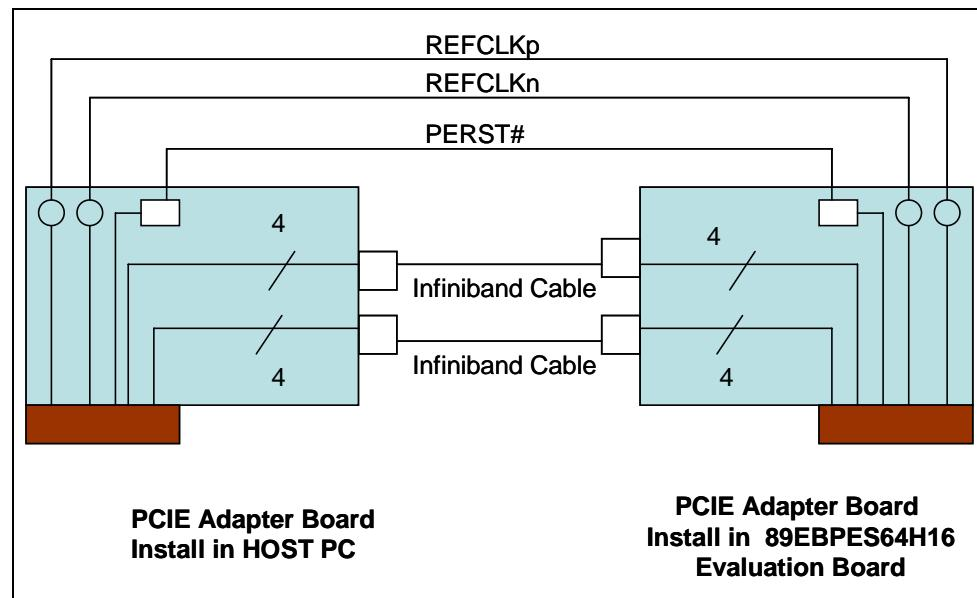

Figure 2.1 PCIe Adapter
| Figure 2.1 | PCIe Adapter | 2-1 |
3. Connect a PCI Express adapter card in an upstream port with a cable to another PCI Express adaptor card in the root complex or host system, as shown in Figure 2.1.
The PCI Express adapter card contains eight PCIe lanes (see Figure 2.1). The lower four lanes are routed to an Infiniband connector J2 and the upper four lanes to J3. The differential REFCLKp and REFCLKn pins are routed to J5 and J6, respectively. The JTAG interface and PERST# pins are routed to J4 although only PERST# pin is actually used. Two PCIe Adapter cards are required to connect the EB64H16 evaluation board to the host PC and remember to match the connector connection between two cards.